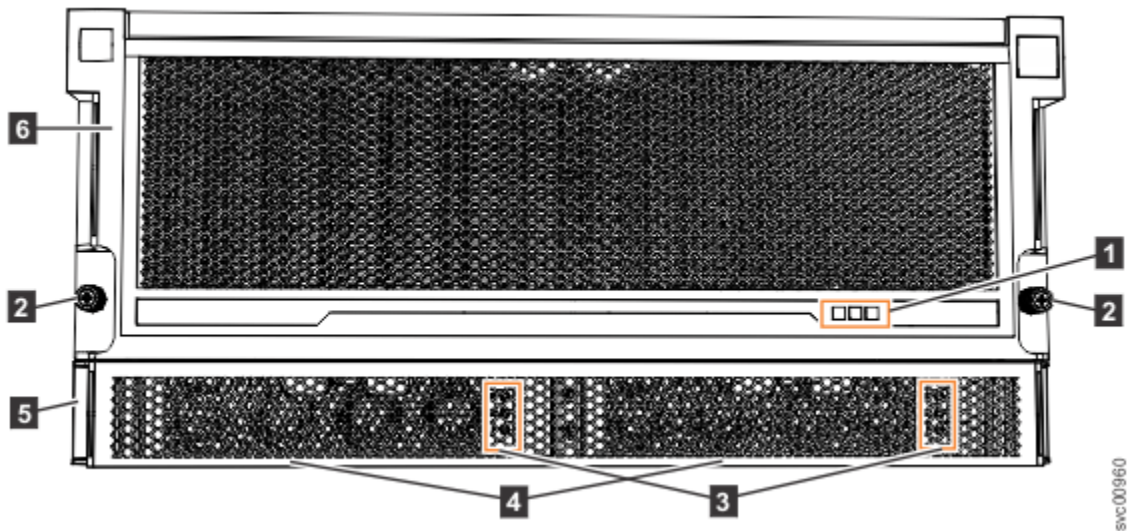

Figure 76. Features on the front of the 2077-92F, 2077-A9F expansion enclosure
- Before you connect the power cables to the rear of the enclosure, always check that the expansion enclosure is secured in the rack. If needed, tighten the thumbscrews on the front of the enclosure (2 in Figure 76 on page 77) to ensure that the enclosure drawer does not roll open.
The 2077-92F, 2077-A9F expansion enclosure has two power supply units (PSUs) that are accessible from the front of the enclosure (4 in Figure 76 on page 77). As the figure also shows, the PSUs are covered by the 1U fascia (5).